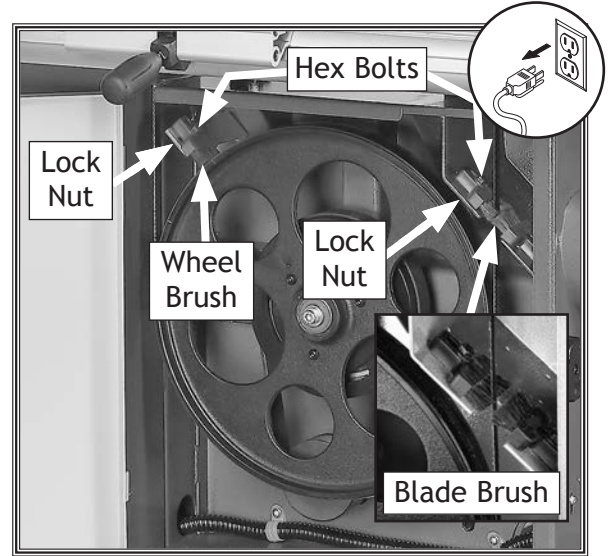

Figure 93. Location of wheel and blade brushes.
The lower wheel has brushes (see **Figure 93**) that are designed to sweep sawdust off the wheel and blade during operation. In order to work properly, the brushes must make firm contact with the wheel.
3. Loosen hex bolts and lock nuts that secure wheel brushes in place (see **Figure 93**).